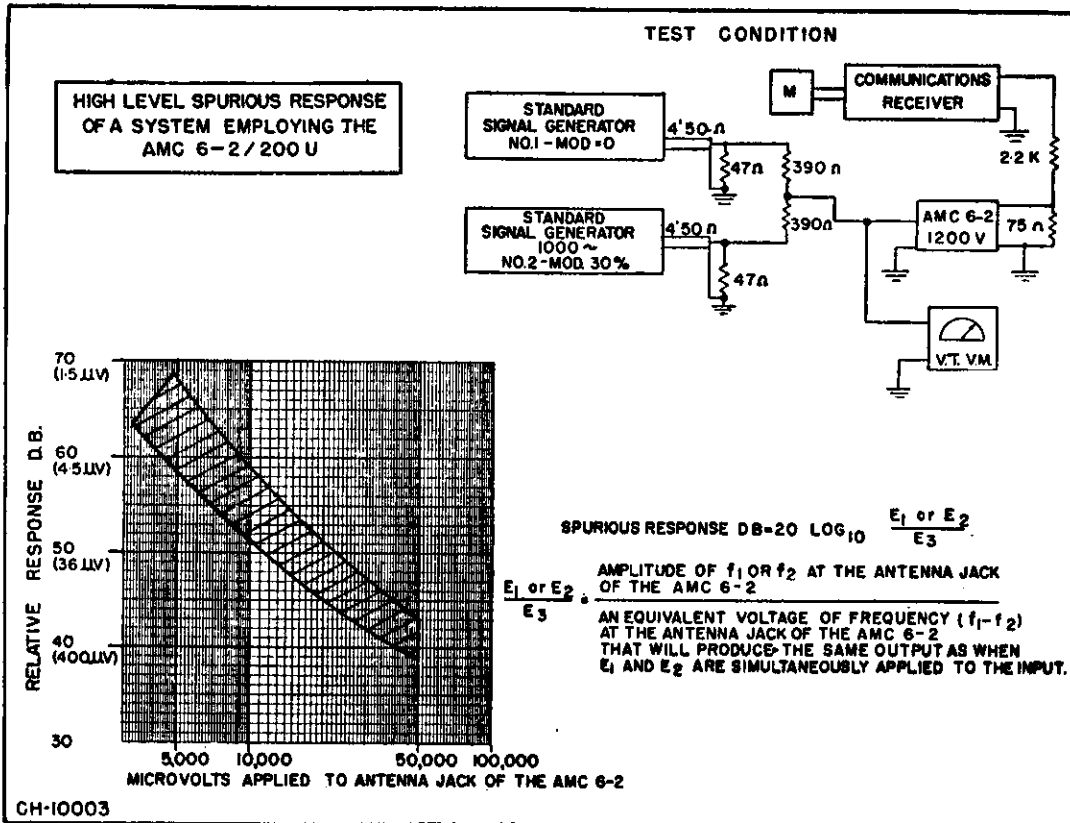

Figure 6-2. INTERMODULATION CHARACTERISTICS
2. Points in the shaded area of Figure 6-2 indicate the maximum amplitudes of the spurious signals which result when any two equal amplitude signals lying in the pass-band are simultaneously applied to the input of the AMC 6-2/200U multicoupler.
A filter is provided and may be inserted into the input of the multicoupler to provide an attenuation of not less than 35 db at frequencies below 1.5 mc/s with no appreciable change in the multicoupler characteristics in the 2.5 to 30 mc/s range. (See Figure 6-2.) Insertion loss at 2 mc/s: 3 db; between 2.5 to 30 mc/s: nil. By means of this filter, the increase in spurious response normally produced when the multicoupler is operated near powerful "broadcast" transmitters, is greatly reduced.